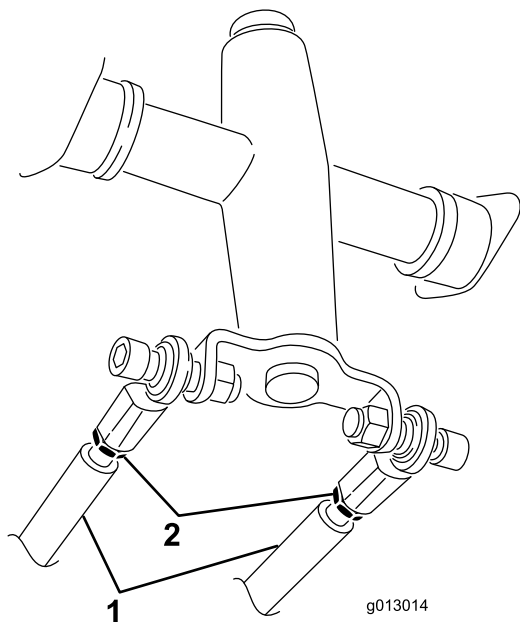

Figure 56
3. Loosen the jam nuts on the traction rods, under the control panel (Figure 56).